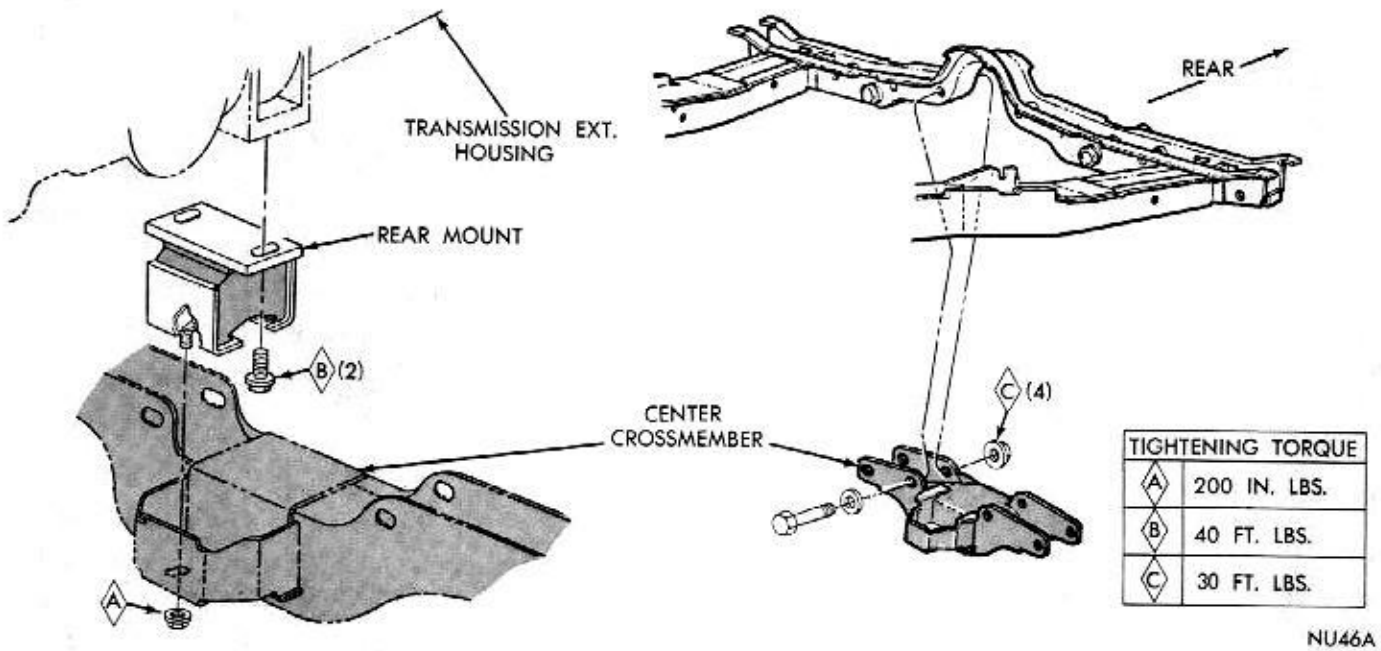

Fig. 10—Center Crossmember and Rear Engine Mount (Coronet-Charger)
(3) Remove the speedometer pinion and adapter.
(4) Remove bolts securing extension housing to crossmember. Raise transmission slightly with service jack and remove center crossmember (Fig. 10).
(5) Remove extension housing to transmission bolts and slide extension housing off mainshaft.
(3) Disconnect speedometer cable and back-up light switch leads.
(4) Install engine support fixture C-3487-A mounting hooks firmly into holes in side frame members with support ends up against underside of oil pan flange. Use Adapter Leg C-3806 on 6-cyl. engines.
(5) Raise engine slightly with support fixture. Disconnect transmission extension housing from removable center crossmember (Fig. 10).
(6) Support transmission with a suitable jack and remove center crossmember. Remove bolts that attach transmission to clutch housing.
(7) Slide transmission rearward until pinion shaft clears clutch disc before lowering transmission. (This precaution will avoid damaging the clutch disc.)